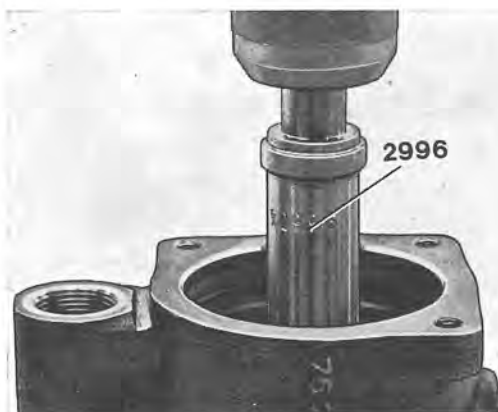

Fig. 6-90. Removing sealing ring
7. Press the plate (14) out of the housing. The intermediate piece, if not removed, should accompany the plate.
8. Screw out the plug (23) and shake out the spring (26) and piston (27).
9. Press out the needle bearing (9) and sealing ring (8) together with tool 2996, see Fig. 6-90.